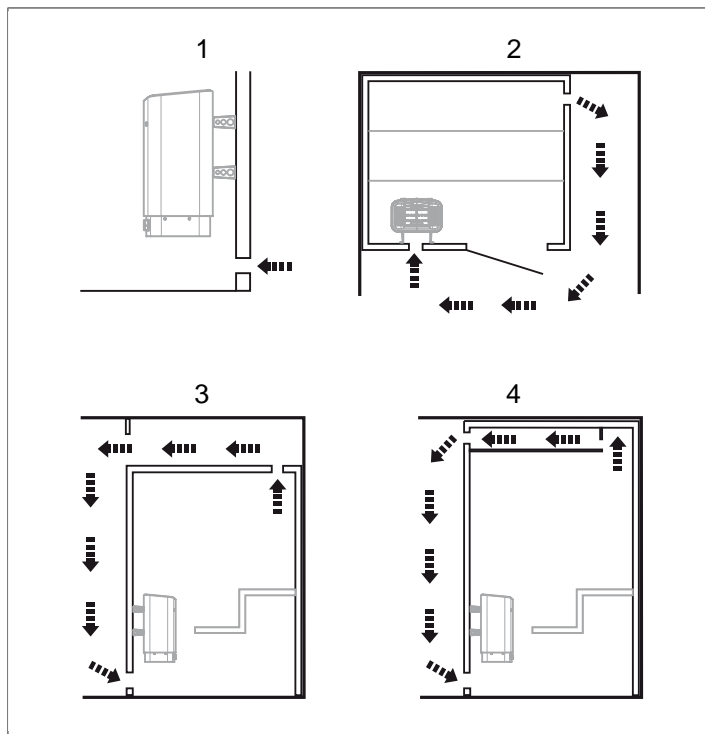

Figure 4: Positioning the inlet and outlet vents
- at the maximum possible distance from the inlet vent, e.g. diagonally (see **Figure 4**, Page 3).
- high on the wall or in the ceiling (see **Figure 4**, Page 3).